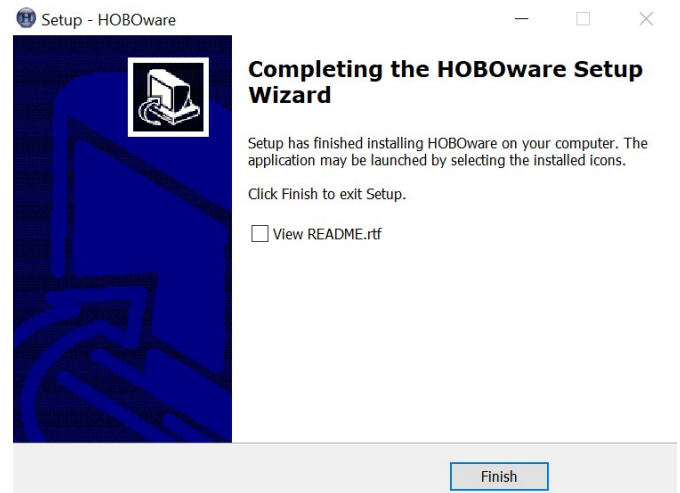

Figure 19. Completing HOBOWare Setup
8. When the installation is complete, the window shown here (Fig. 19) will pop-up. Before you click FINISH, uncheck the box that says *README*. If this box is checked it will open a Word document with technical software information. If you are interested in this information, you may leave it checked, but you will not need it for this project.